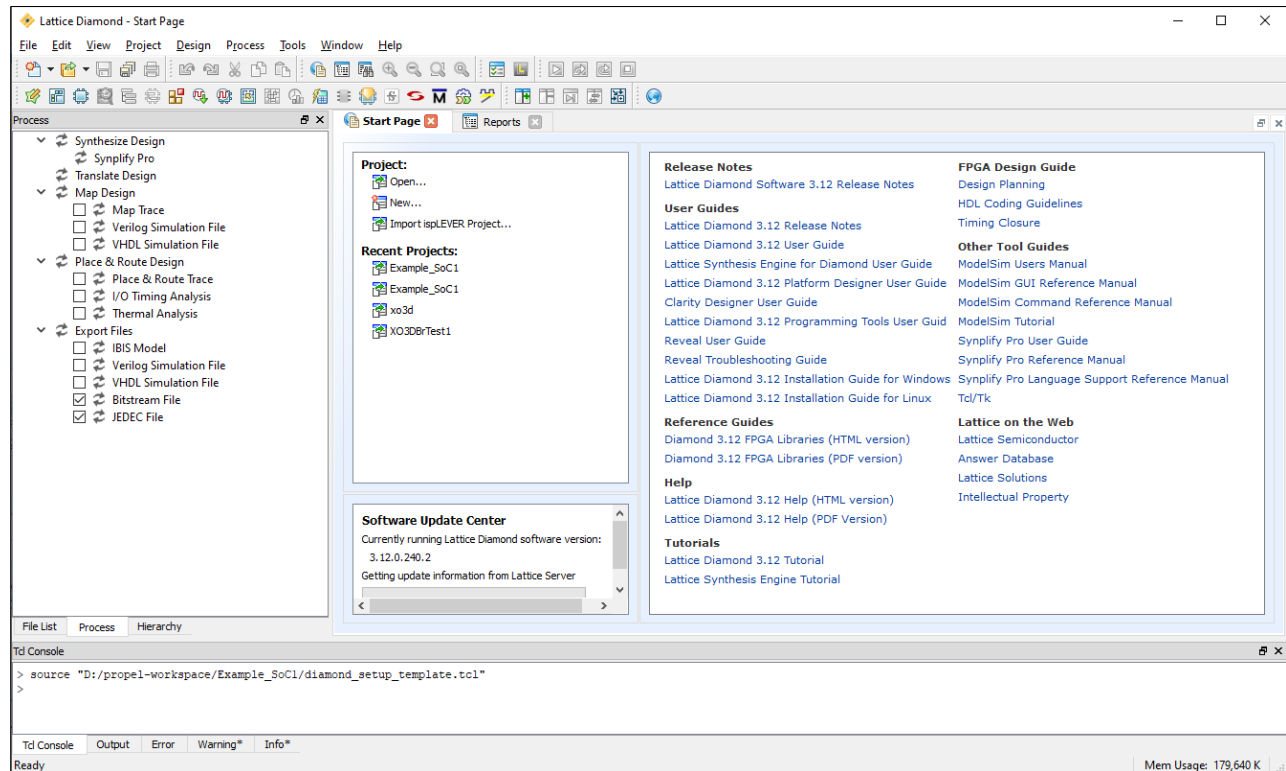
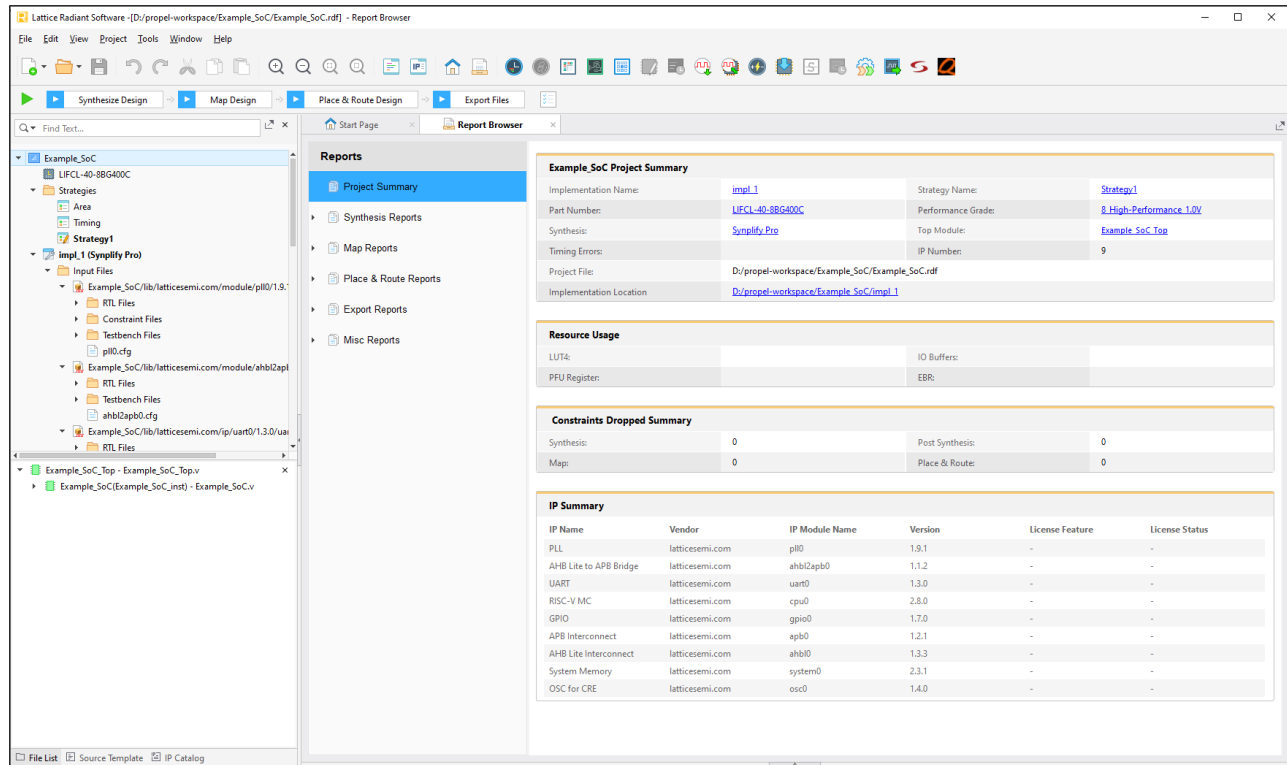

Figure 3.18. Lattice Diamond Software Project
Figure 3.19. Lattice Radiant Software Project
4. The Lattice Diamond or Radiant project for SoC is generated in the background and is launched (Figure 3.18/ Figure 3.19).